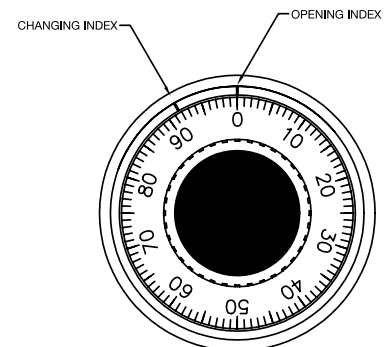

FIGURE 2
6. Mount the dial ring centered on the through hole, and attach to the safe door using the two mounting screws supplied with the dial assembly. The opening index reference mark must be in the twelve o'clock position. (Figure 2.)